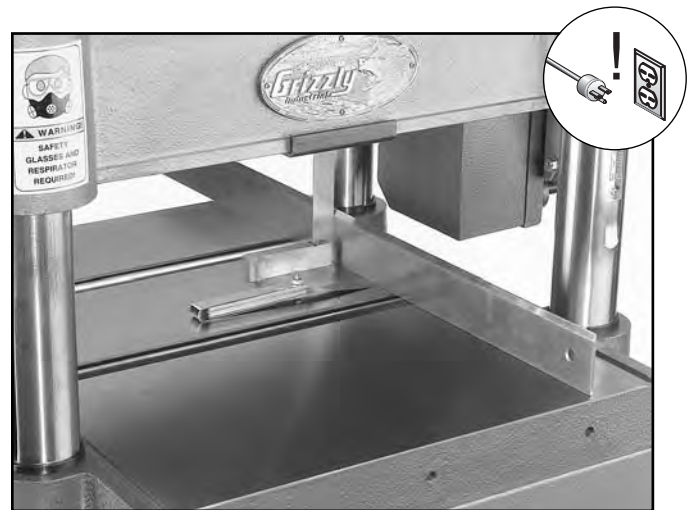

Figure 39. Inspecting bed roller height.
2. Use a feeler gauge to measure the clearance between the bottom of the straight edge and the table. Ideal clearance is between 0.006" and 0.002". Measure in several places. This measurement must be consistent across the entire table. **See Figure 39.**